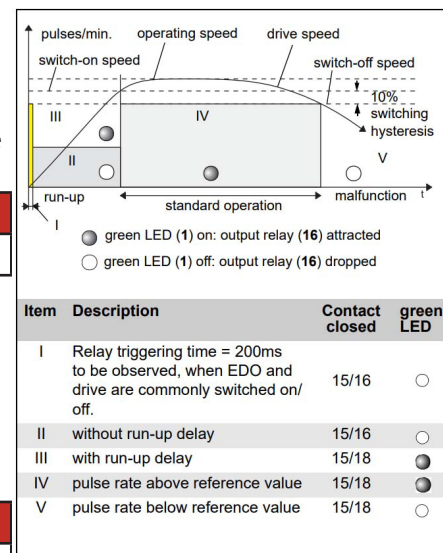

Fig. 1.2 Time Chart for low speed monitoring device
If the set speed is not reached, the output relay (16) drops and the green LED (1) extinguishes (s. fig. 1-2).